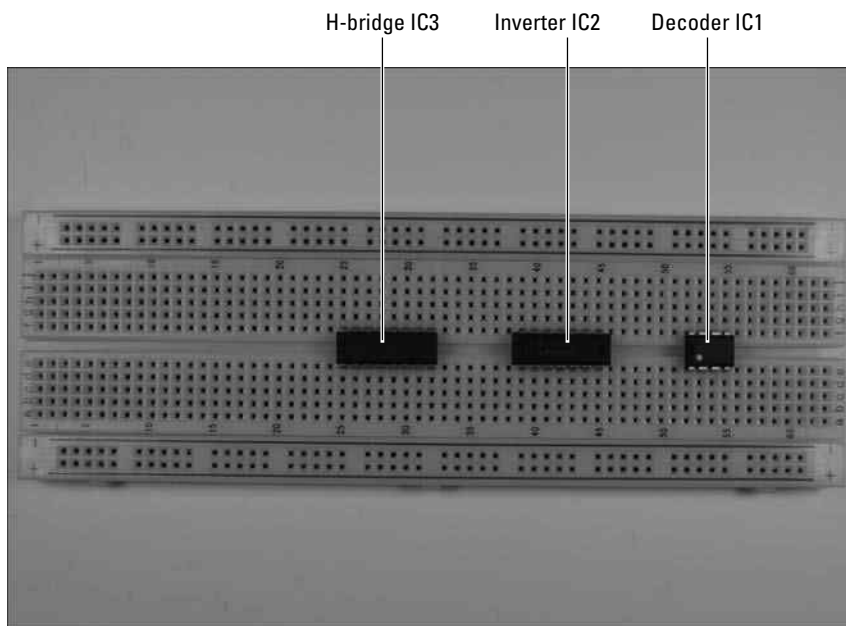

Figure 11-23:
1. Insert the ICs on the breadboard, as shown in Figure 11-23.